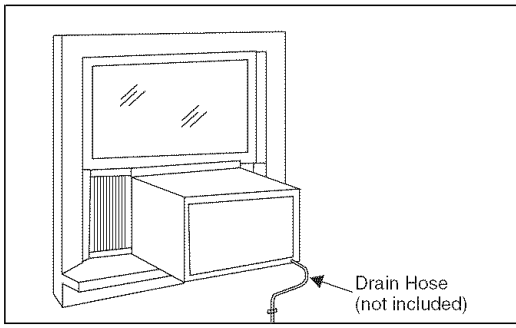

Fig. 19 – Drain Hose
C. In very humid areas, the water removal may be excessive enough to overflow the unit or increase the noise of the air conditioner. If this occurs, you may wish to attach a drain hose (not included) to the drain plug allowing condensations to run off conveniently (see Fig. 19).